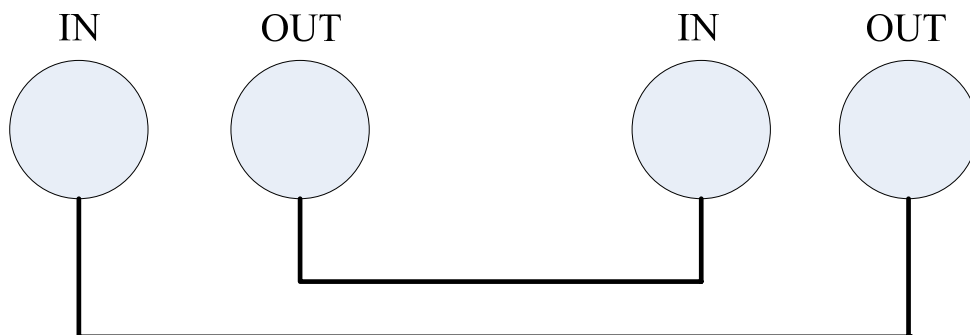

Figure8: 75Ω E1 connection
- Connect the 10/100Base-T cable and E1 cables (Figure8) to the interfaces. The 75Ω E1 line and the 120ΩE1 line can't be connected at one time.